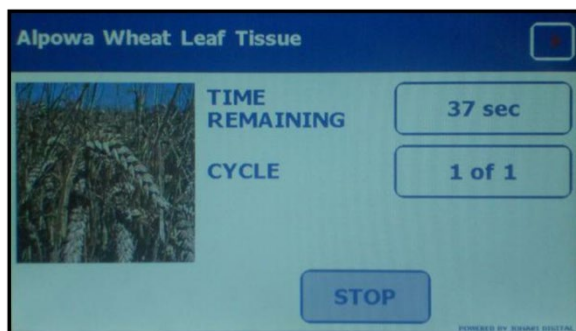

Figure V-6: FastPrep-24™ 5G ‘Touch Screen’ Countdown Display During Assay Run
7. Press [YES] to initiate the assay run. The FP-24 5G starts the assay while displays a countdown of the assay time remaining (Figure V-6).